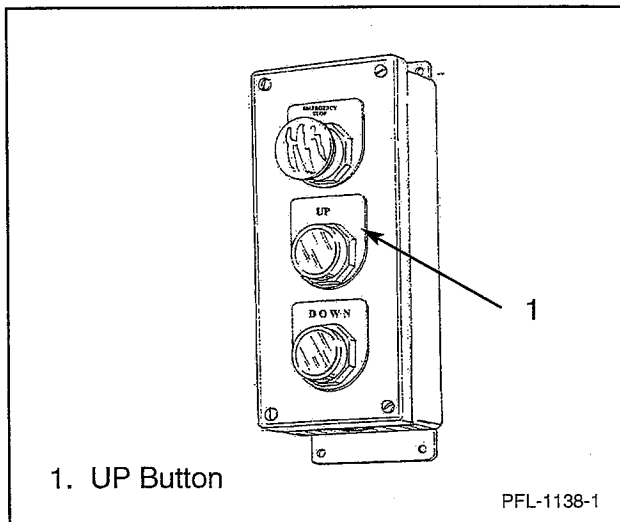
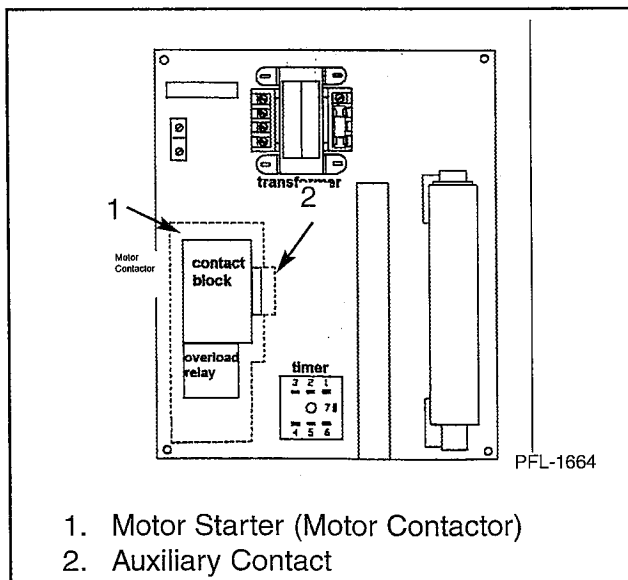

Figure 12
Figure 13
1. When the UP button at the push button station is pressed (Figure 12), the control circuit to the motor starter (motor contactor) is completed. The coil of the motor starter (Figure 13) magnetically closes the high voltage contacts completing the power circuit to the motor.
- The timing relay found in the control panel (Figure 13) is activated, holding the dump valve open. This timer is pre-set to allow enough time for the carriage to descend to the first level. The dump valve closes when either the timer "times out" or the next time the UP button is pressed. This completes one full cycle of operation.